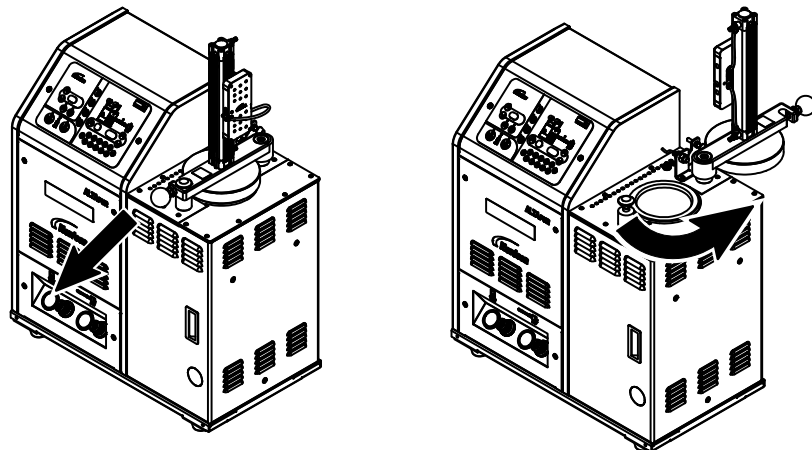

Figure 4-1 Opening the lid
3. See Figure 4-1. When the piston is fully raised, pull up on the handle to open the lid.